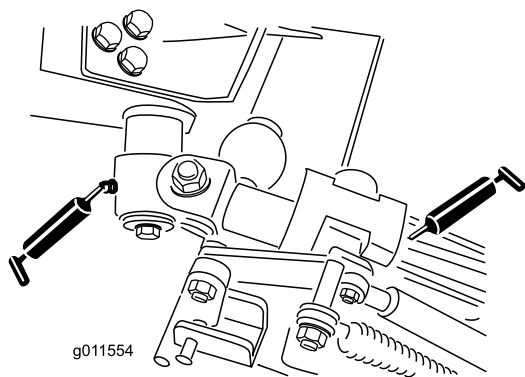

Figure 72
- 2 bell-crank-pivot bushings (Figure 72)
- 4 rear arm bushings (Figure 72)